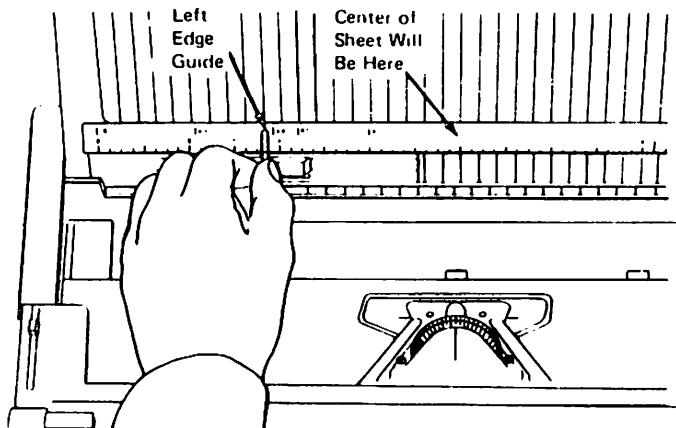

Figure 16 Setting left edge guide
1. Move the left edge guide to a reading that corresponds to one-half the paper width (Figure 16). This positions the center of the paper at the 0 (zero) position of the scale. For example, set the left edge guide to 4.25 inches for 8.5 inch wide paper.